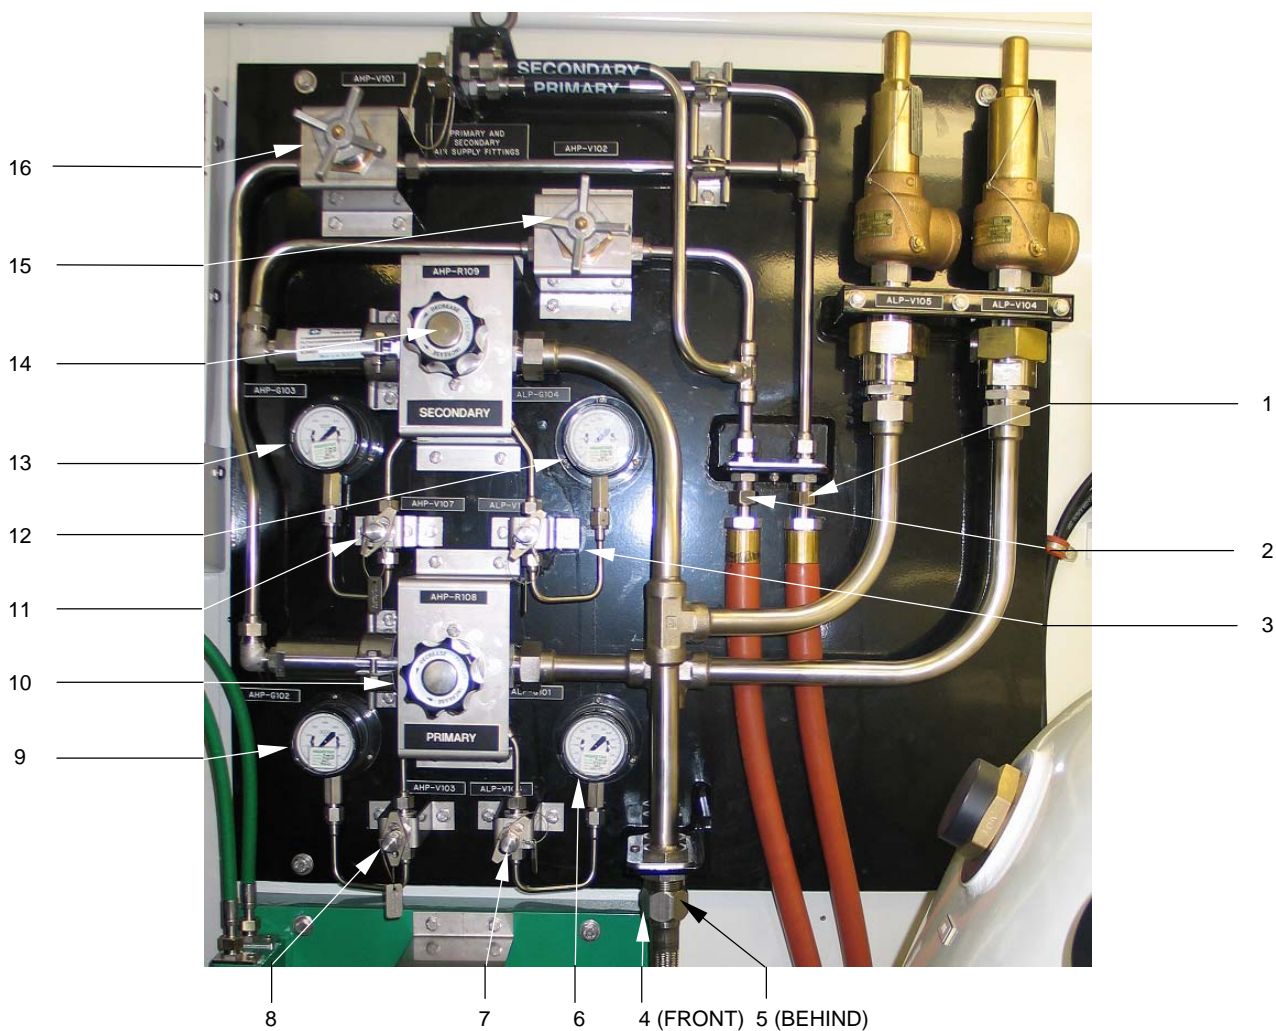

Figure 2-6. HP Air Reducing Station
**2-5.2 HP AIR REDUCING STATION.** The HP Air Reducing Station (see Figure 2-6) is located on the bulkhead of the shipping van. The HP Air Reducing Station, through installed piping, hoses, valves, and reducers, lowers the pressure from the Fly Away Dive System (FADS) III air storage bank, or external air source such as a supply compressor at 5000 psi to 250 psi for use in the SNDLRCS. The following controls and indicators are found at the HP Air Reducing Station.
Table 2-2 defines the functions and normal operating conditions of the HP Air Reducing Station components identified in Figure 2-6.